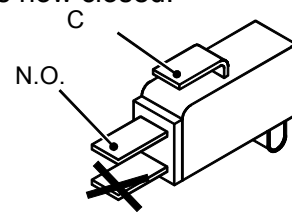

Figure 3
- 2) Measure the electrical resistance between the tabs marked C. and N.O. (Figure 3). The contact must be normally open.
- 4) Re-assemble the parts in reverse order of removal. Refer to Figure 3 for the correct wiring connectors on the switch.